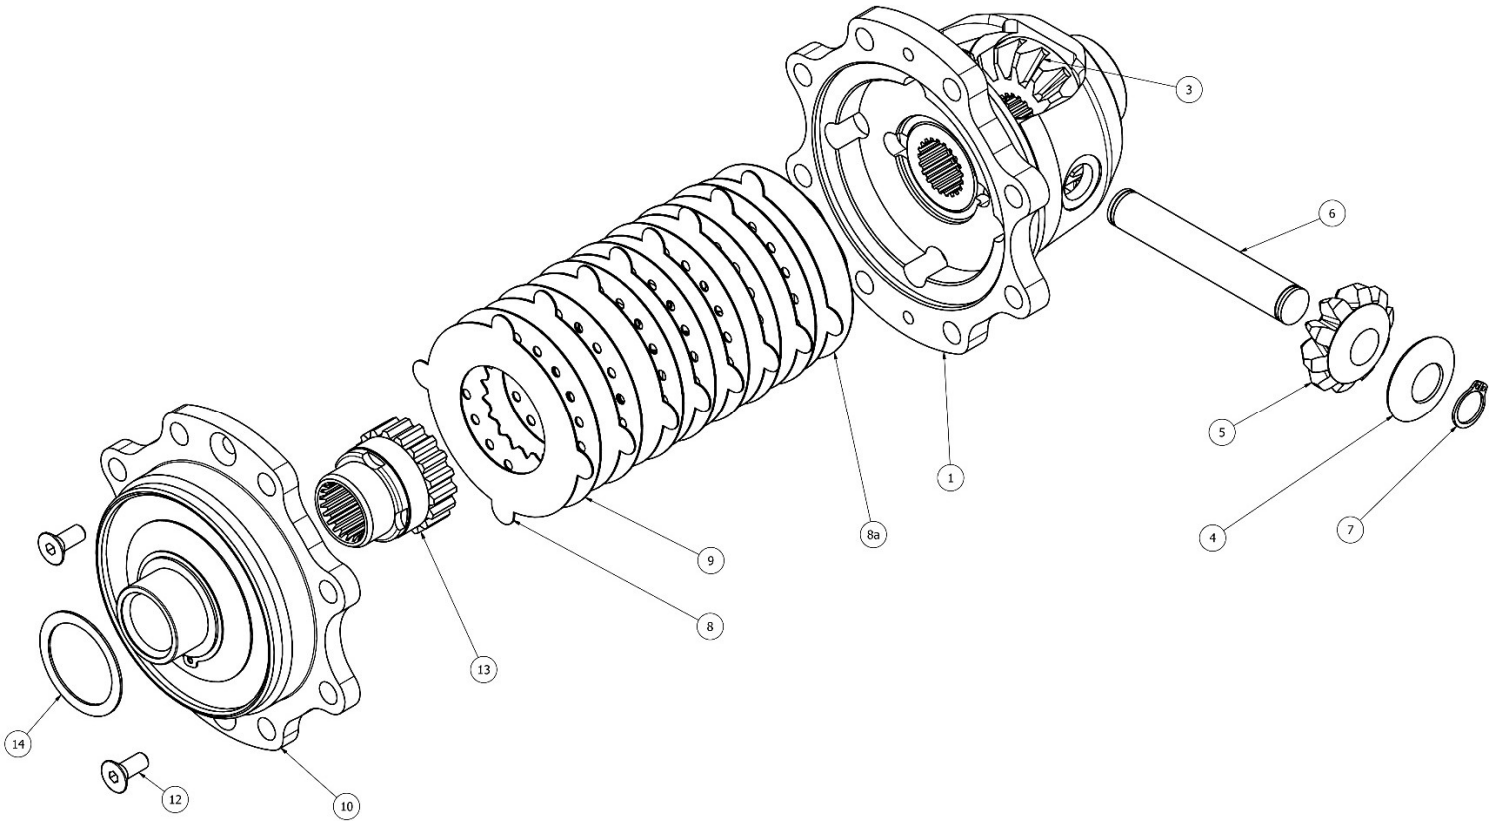
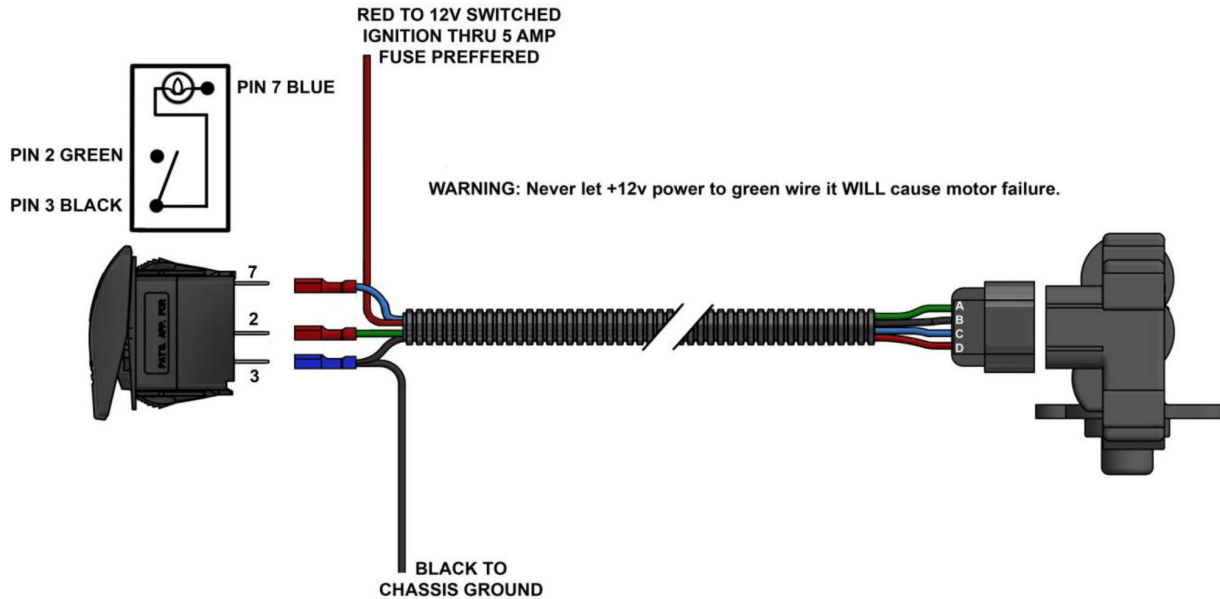

Figure 2
Figure 4
14. Install Visco gear (13), locking gear (36), and shim (35) into carrier assembly (1-12)
15. Install cap (34) and ring gear (37) on carrier assembly, using bolts (32) and torque to 33 ft-lb. Install lock tabs (33) on bolt (32) (flip tab for more lock positions) Secure lock tabs (33) with retaining ring (33a) by installing retaining ring into groove on cap (34) . Do not reinstall screws (12) from figure 2.
16. Place carrier assembly back in housing assembly (30) then place shim (14 removed in step 4) back on carrier cap bearing journal
17. Assemble the Halo case lid shifting mechanism. Some components are pre-assembled. Place the fork and piston assembly (27), (22), (20) in case lid (26). Install spring (24) and washer (21) on piston (22), compress spring and washer enough to install and retaining clip (19) onto piston groove.
18. Place O ring (25) in position and install motor adaptor (18) with bolts (17).
19. Clean and lube O ring (49) removed in step 2 and install onto lid assembly (26)
20. Slip locking ring and pin assembly (31) onto fork (27).
21. Place lid assembly (26) onto carrier and case assembly (30) while aligning the 4 pins on the lock ring assembly (31) into the 4 holes in the carrier cap (34).
22. Align bolt holes in lid assembly (26) with blot holes in case (30) and using your hand or a soft mallet force lid to seat in case. And install bolts (40) removed in step 2. Torque to 17 ft-lb.
23. For clearance and easier installation, install motor actuator (16) with bolts (15) and breather fitting (29). After Installing differential assembly back in vehicle and before reinstalling the left axle shaft.
25. Install switch (39) and harness assembly (38) in desired location, being careful to wire switch correctly as shown in figure 4.